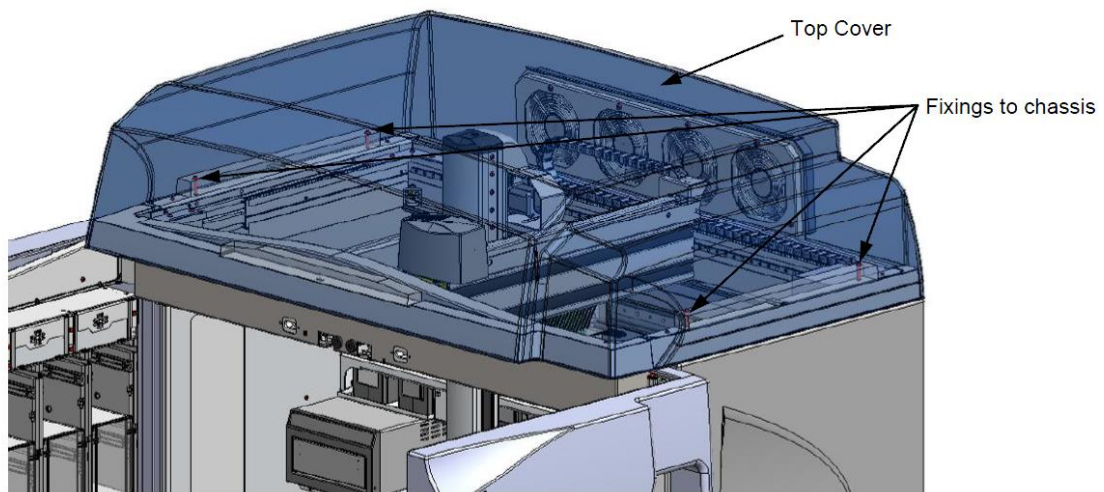

Figure X-1: Removing the Top Cover
1. Remove the top cover of the system (Figure X-1).